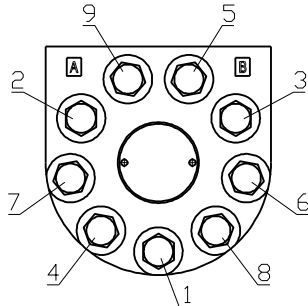

Fig.14
24. Install the screws in End cover. Tighten screws with  $75 \div 80$  Nm torque using a S=19 mm torque wrench in sequence as shown in Fig.14